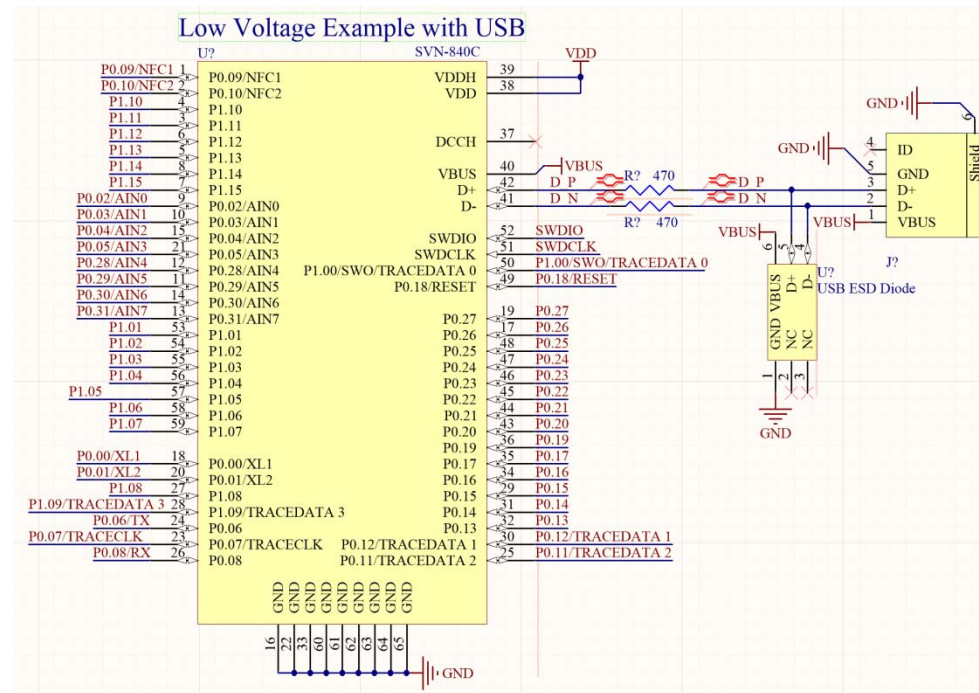

Figure 2: Normal (LV) Power Mode example
The USB interface on the SVN-840C can be used when the module is in either normal (LV) or high voltage (HV) mode. The SVN-840C USB PHY is powered by a dedicated, internal LDO regulator that is fed by the VBUS pin (40). This means VBUS power cannot power the rest of the module. If you want to power from USB, you must connect to VDDH as well as VBUS or use an external low drop out regulator or DC/DC converter to power VDD. For the USB PHY to operate, VBUS must be externally powered. Examples in Figure 2 and Figure 3 below.